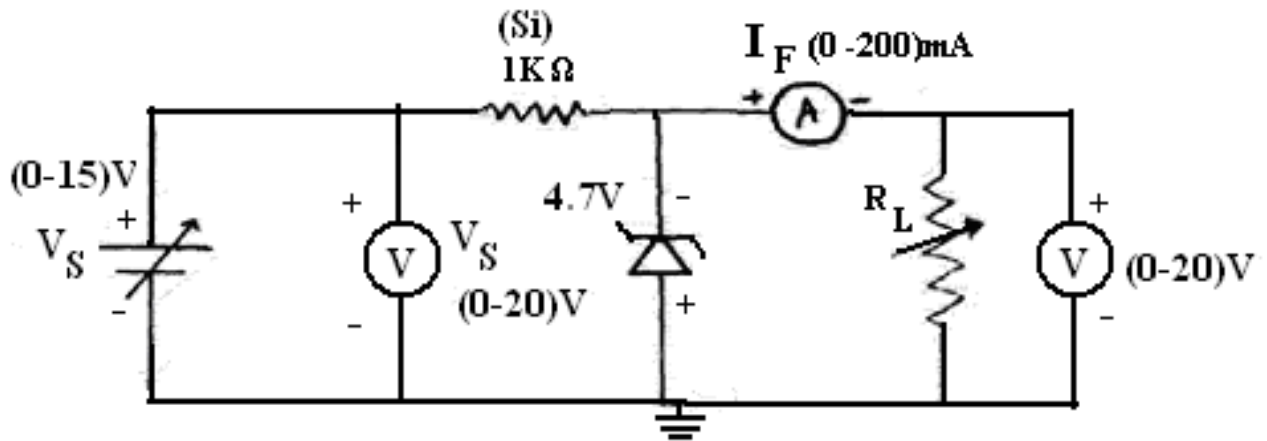

Fig. 2: Zener diode Voltage regulator
1. Connect the Zener diode in reverse bias as shown in the fig.2.